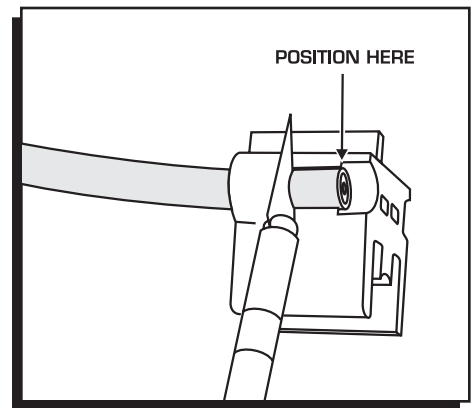

Figure 5 Stripping the Sleeve.
1. Slide the wire into the cutting die as shown in Figure 5.